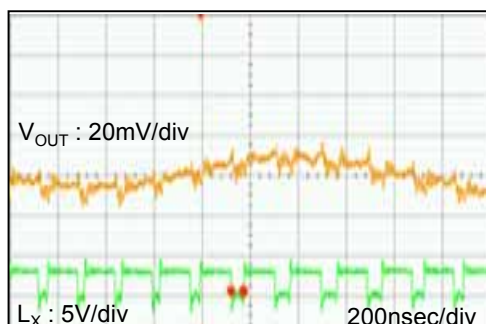
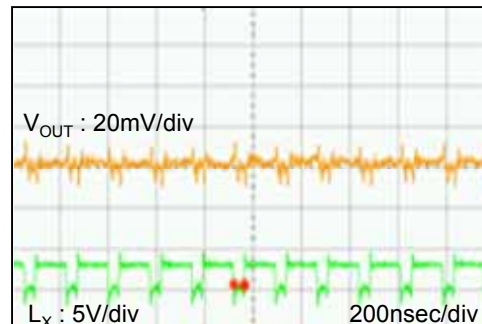

Fig.15-1 Insufficient  $C_L$  ( $C_L = 10 \mu F$ )
Fig.15-2 Sufficient  $C_L$  ( $C_L = 20 \mu F$ )
15. If the capacitance value is not sufficient by degrading  $C_L$  due to the low temp. condition and DC bias feature, the duty cycle might not be stable. Add capacitance value for  $C_L$  if necessary. (Refer to Fig.15-1, Fig.15-2)